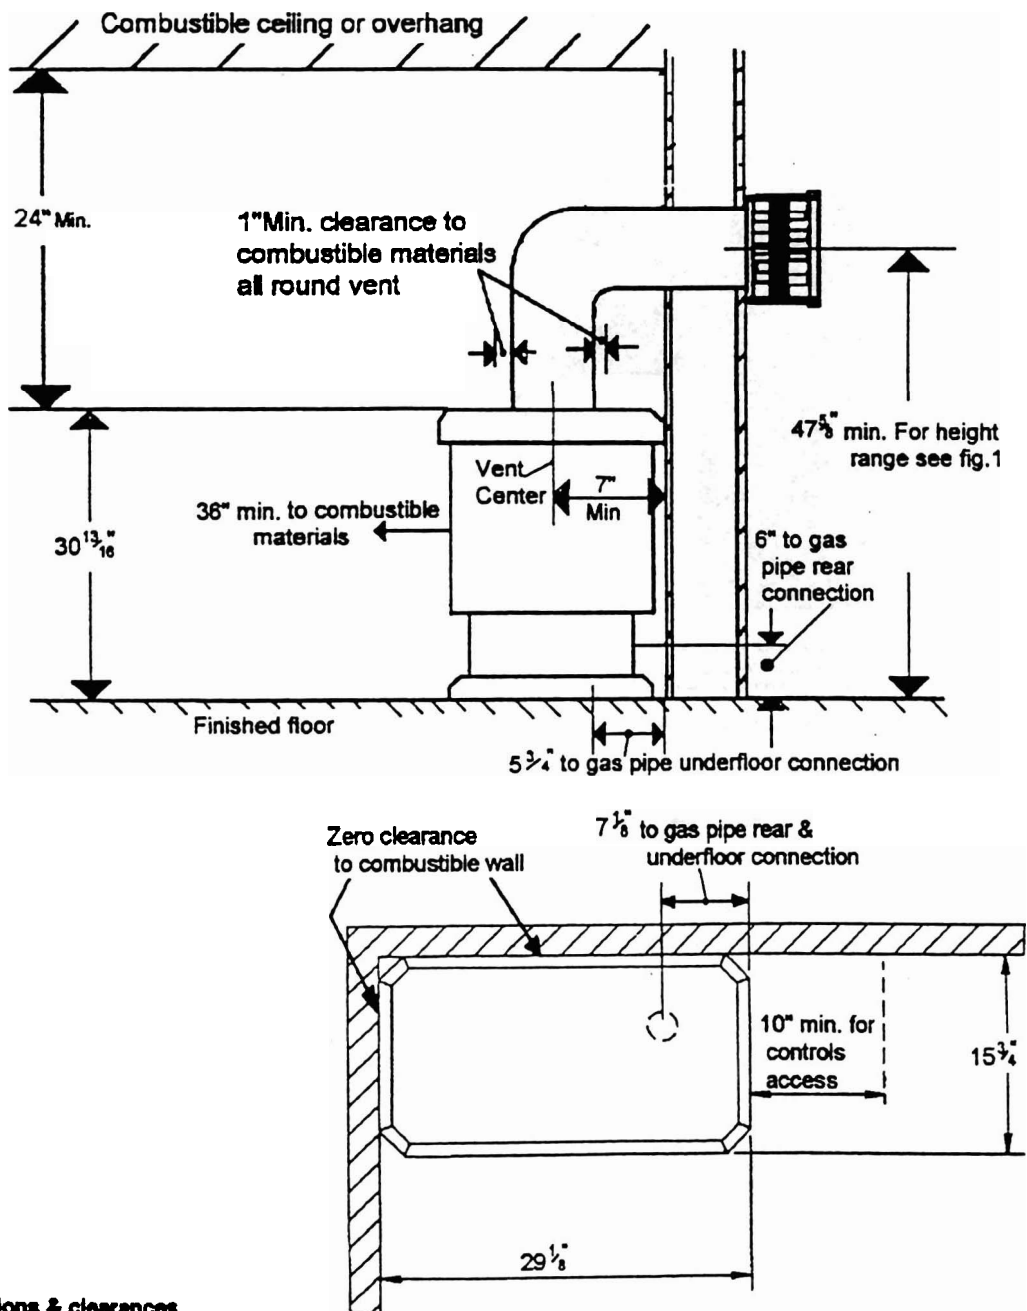

Fig.2 Dimensions & clearances
Combustible materials inside the room must not be closer than the dimensions shown in figure 2.
This appliance is for use only with natural gas. The supply pressure at the appliance inlet should be not less than 5" w.c. and not more than 10.5" w.c. The supply connection is $\frac{3}{8}$ " NPT. Openings for the gas supply are provided in the pedestal for rear or underfloor connection (see figure 2).
- 8.1 Route the gas supply line to the appliance inlet connection point (see figure 2).